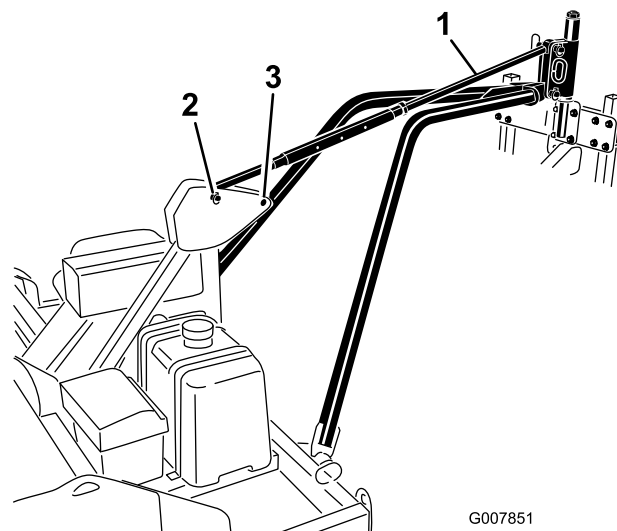

Figure 14
5. Align the hole in the tow arm hitch plate with the lower holes in the aerator hitch pivot (Figure 14).
8. Secure the pitch control link to the top holes in the aerator hitch pivot and the frame hitch pivot with hitch pins and lynch pins (Figure 14).